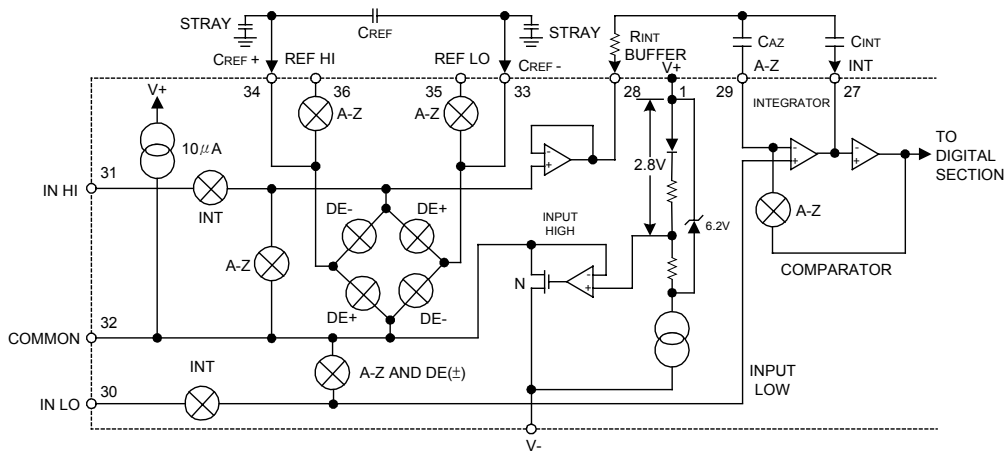

FIGURE 1. ANALOG SECTION
Note 3: Unless otherwise noted, specifications apply to the UTC 7106 at $T_a=25^{\circ}\text{C}$, $f_{\text{CLOCK}}=48\text{kHz}$, UTC 7106 is tested in the circuit of Figure 1.
Figure 1 shows the Analog Section for the UTC 7106. Each measurement cycle is divided into three phases. They are (1) auto-zero(A-Z), (2) signal integrate (INT) and (3) de-integrate(DE).
The UTC 7106, with its negligible dissipation, suffers from none of these problems. In either case, an external reference can easily be added, as shown in Figure 1.